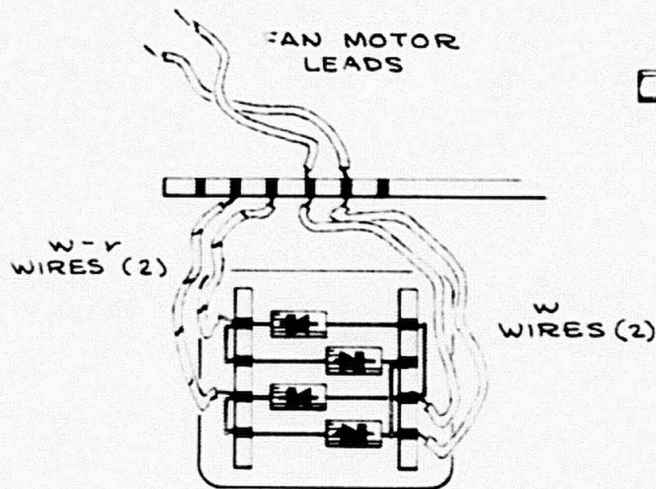

Fig. 1
- () 1. Replace the selenium rectifier on the power chassis with the assembly from the kit. Position the assembly as shown in Fig. 1. Use a lockwasher (from kit) between the assembly and the chassis.
- () 2. Solder the two white and two white-red wires (from kit) between the assembly and the adjacent ceramic strip as shown in Fig. 1.